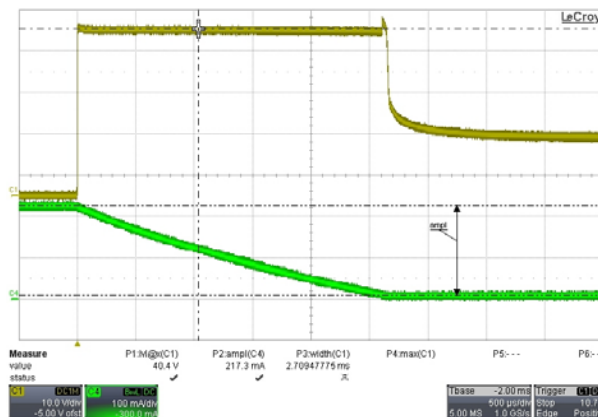

Figure 4. Repetitive Clamping Energy Test
2. Testing particulars, 2M pulses,  $V_{bat} = 15\text{ V}$ , 63 Ω, 390 mH,  $T_A = 25^\circ\text{C}$ . (See Figure 4)